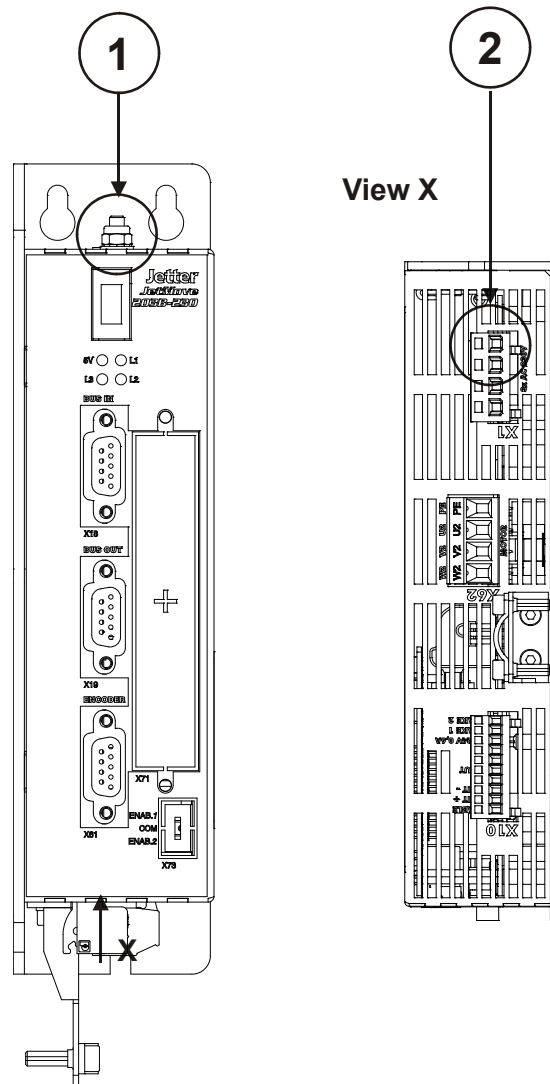

Fig.: 1: Double earthing
- The protective earth conductor must be connected to the PE screw (1) located at the top side of the rack as well as to the PE terminal X1 (2); for this, please refer to fig. 1.
- Connect the protective earth (PE) to terminal X1.Please refer to fig. 1 on page 16.